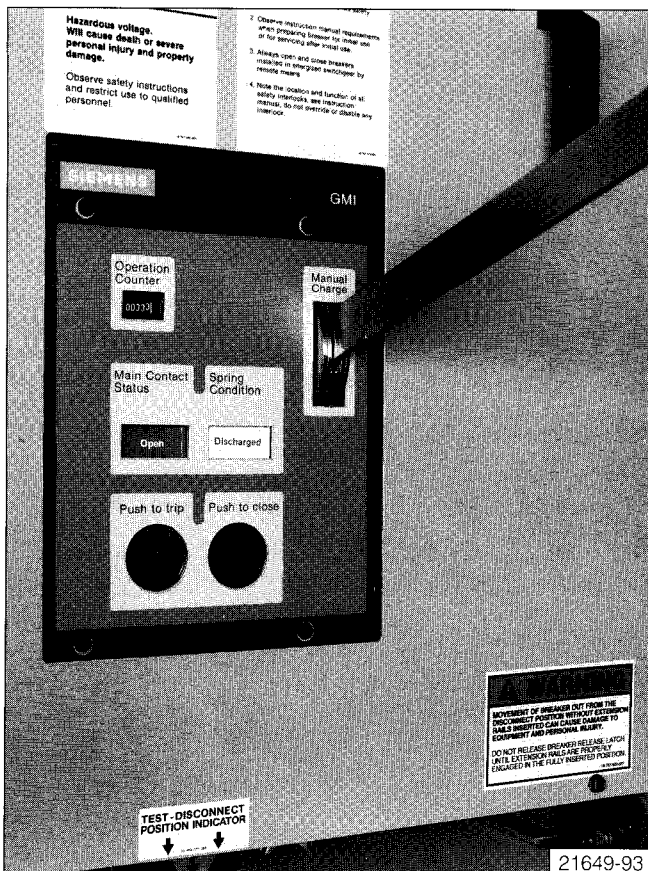

Figure 6: Manual Charging of Closing Springs.
1. Insert the manual spring charging lever into the manual charge handle socket as shown in **Figure 6**. Operate the lever up and down until the spring condition indicator shows the closing spring is Charged.